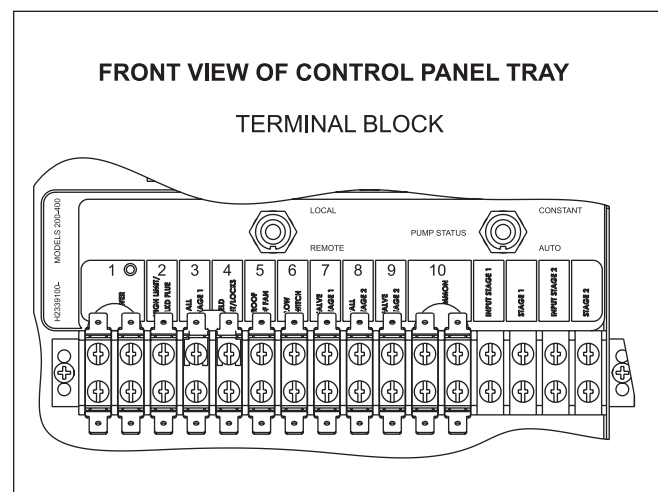

Figure 6. Terminal Block.
**Other Field Interlocks:** To install other field-wired switches (proving switches, flow switches, etc.), remove the jumper between the terminals labeled "3" and "4" (see Figure 6).